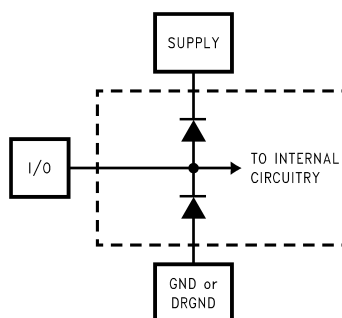

Figure 2.
- (1) The inputs are protected as shown below. Input voltage magnitudes above V_A or below GND will not damage this device, provided current is limited, see Note 4 in the Absolute Maximum Ratings table. However, errors in the A/D conversion can occur if the input goes above V_A or below GND by more than 100 mV. As an example, if V_A is 4.75V, the full-scale input voltage must be $\leq 4.85\text{V}$ to ensure accurate conversions (see Figure 2).
- (2) To guarantee accuracy, it is required that $|V_A - V_D| \leq 100\text{ mV}$ and separate bypass capacitors are used at each power supply pin.
- (3) Typical figures are at $T_A = T_J = 25^\circ\text{C}$, and represent most likely parametric norms. Test limits are guaranteed to AOQL (Average Outgoing Quality Level).
- (4) Integral Non Linearity is defined as the deviation of the analog value, expressed in LSBs, from the straight line that passes through positive and negative full-scale.
- (1) The inputs are protected as shown below. Input voltage magnitudes above V_A or below GND will not damage this device, provided current is limited, see Note 4 in the Absolute Maximum Ratings table. However, errors in the A/D conversion can occur if the input goes above V_A or below GND by more than 100 mV. As an example, if V_A is 4.75V, the full-scale input voltage must be $\leq 4.85V$ to ensure accurate conversions (see Figure 2).
- (3) With the test condition for $V_{REF} = +2.0V$ (4V_{P-P} differential input), the 12-bit LSB is 977 μV.
- (4) Typical figures are at $T_A = T_J = 25^\circ\text{C}$, and represent most likely parametric norms. Test limits are guaranteed to AOQL (Average Outgoing Quality Level).
- (3) With the test condition for $V_{REF} = +2.0V$ (4V_{P-P} differential input), the 12-bit LSB is 977 μV .
- (4) Timing specifications are tested at TTL logic levels, $V_{IL} = 0.4V$ for a falling edge and $V_{IH} = 2.4V$ for a rising edge.
- (5) Typical figures are at $T_A = T_J = 25^\circ C$, and represent most likely parametric norms. Test limits are guaranteed to AOQL (Average Outgoing Quality Level).